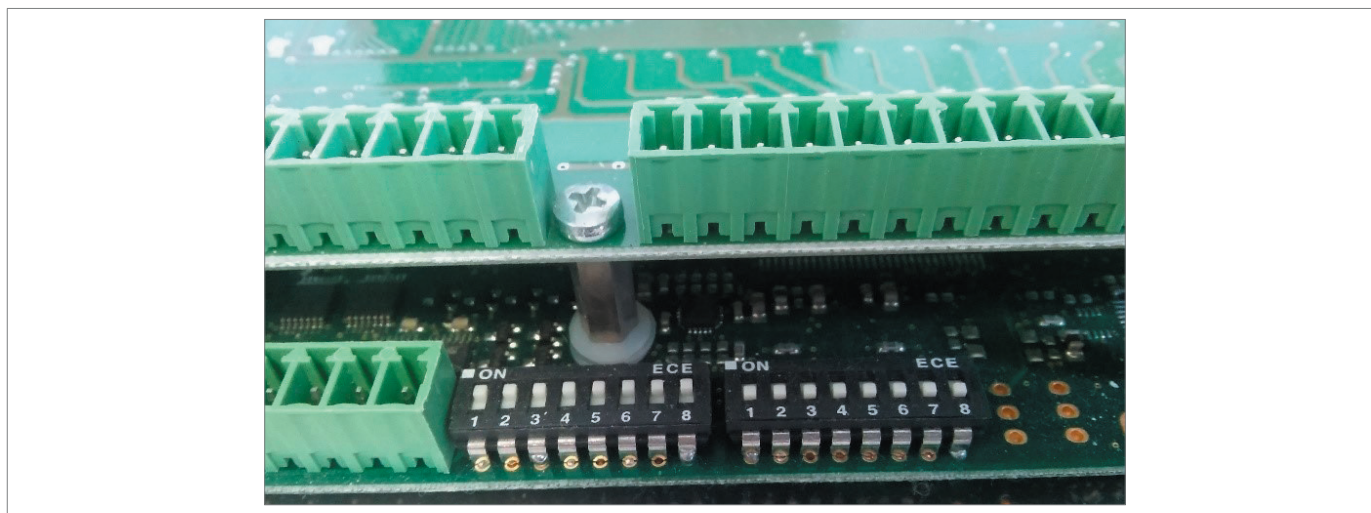

Fig. 4.5. AQUALOG MASTER analogue inputs
The reading mode for each channel is set via the 2 banks of dip switches shown in Fig. 4.5.
When connecting field instrumentation to the analogue inputs, remember that these inputs are passive. The current or voltage measurement signal must therefore be powered independently: the negative polarity of the signal must be connected to the common terminal of the connector (C) while the positive polarity must be connected to the channel terminal, as outlined in Fig. 4.5.